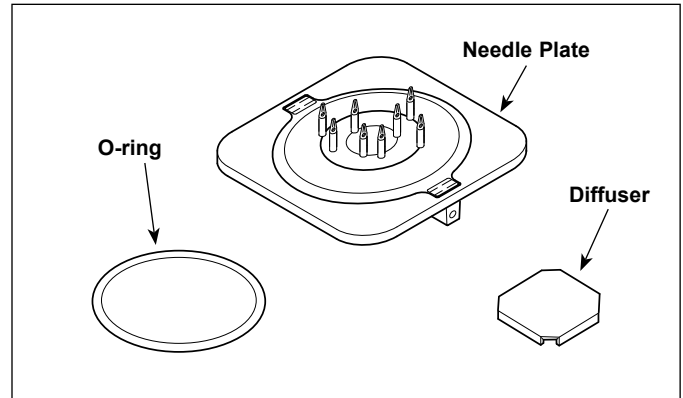

Figure 1. Wash Items
4. Remove and wash the Needle Plate, O-ring, and Diffuser (Figure 1) in soap and water. Rinse with clean hot water and allow to air dry.